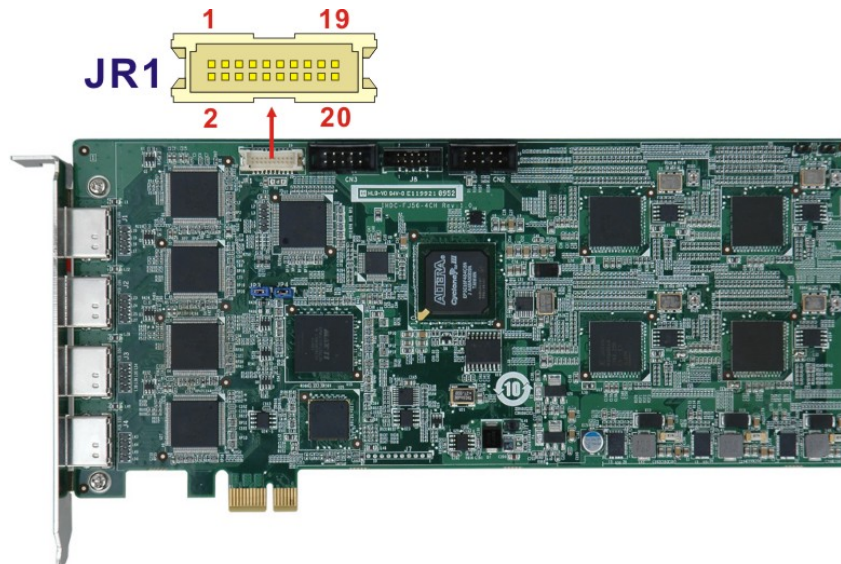

Figure 2-4: HDC-304E HDMI Output Kit Connector Location
**Figure 2-4** shows the location of the HDMI output kit connector.